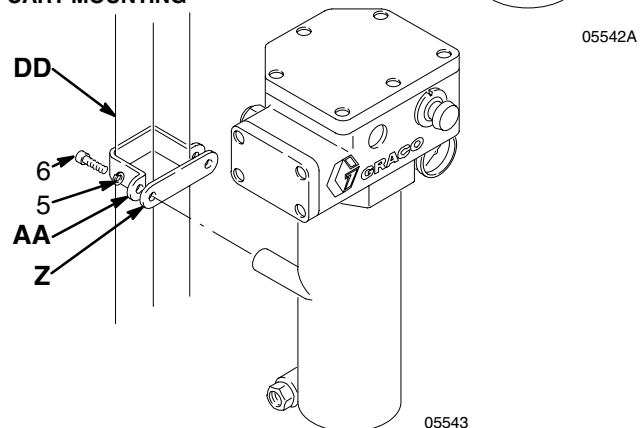

Fig. 3
4. **Wall Mounting** (See Fig. 3)
- a. Use the wall bracket (44) as a template to mark the wall. Use M8 bolts of the appropriate length and lockwashers (CC), not supplied, to mount the bracket to the wall.
- b. Install two screws (6) and washers (5) into the top two heater mounting posts (BB) until they are about 1/8 in. (3 mm) from fully installed.
5. **Cart Mounting** (See Fig. 3)
- b. Place the clamps (AA) around the vertical post (DD) of the cart and secure to the heater mounting bars (Z) with M8 x 1.25 x 30 mm bolts (6) and lockwashers (5), as shown.